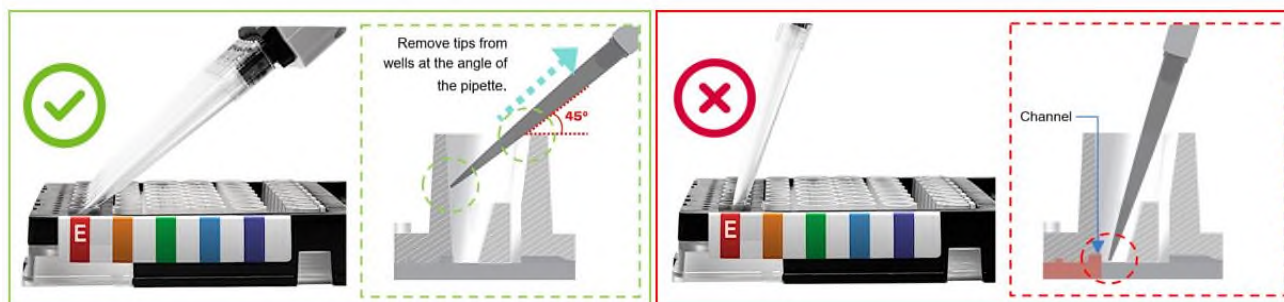

Figure 4. Proper (left) and improper (right) pipetting techniques for fluidic chip buffer wells.
5. Using a P200 multichannel pipette and the proper pipetting technique shown in **Figure 4**, add the appropriate volume of each purification buffer as shown on the screen (also see **Figure 5**), working left to right (1 to 5), to the fluidic chip.